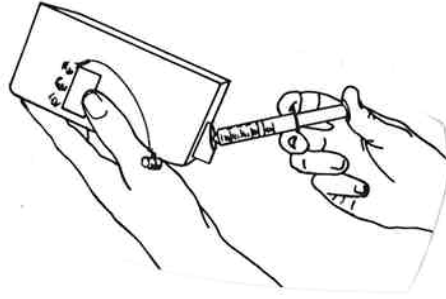

Figure I-14. Correct angle for filling
- *Never tip the PORTACOUNT backwards further than horizontal while filling (see figs. I-14 and I-15).*